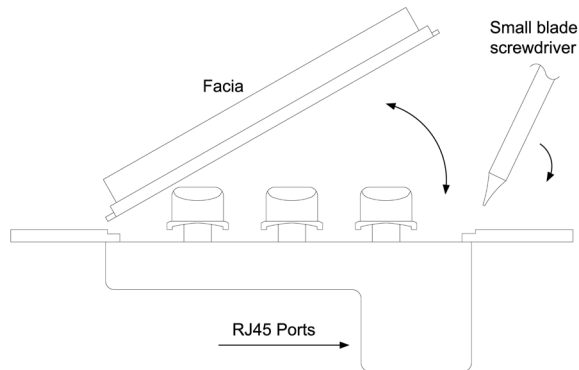

FIGURE 1
2. Carefully remove the plastic switch bezel that surrounds the buttons. Use a small screw driver or similar to pry the bezel from the bottom of the switch housing using the detent in the housing at the bottom of the bezel. See **Figure 1**.